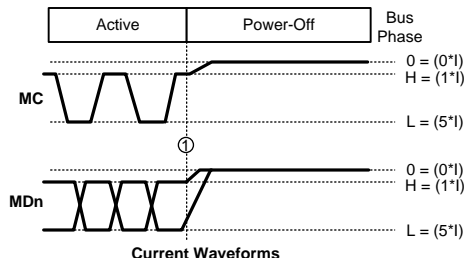

Figure 8. Bus Power Down Timing
(1) Typical values are given for $V_{DDIO} = 1.8V$ and $V_{DD} = V_{DDA} = 1.8V$ and $T_A = 25^\circ C$.
(2) This is a functional parameter and is specified by design or characterization.
(3) Specified functionally by the I_{DDZ} parameter. See also Figure 8.
In the OFF phase, both SER and DES MPL transmitters are turned off with zero current flowing on the MC and MDn lines. Figure 8 shows the transition of the MPL bus into the OFF phase. If an MPL line is driven to a logical Low (high current) when the OFF phase is entered it may temporarily pass through as a logical High (low current) before reaching the zero line current state.